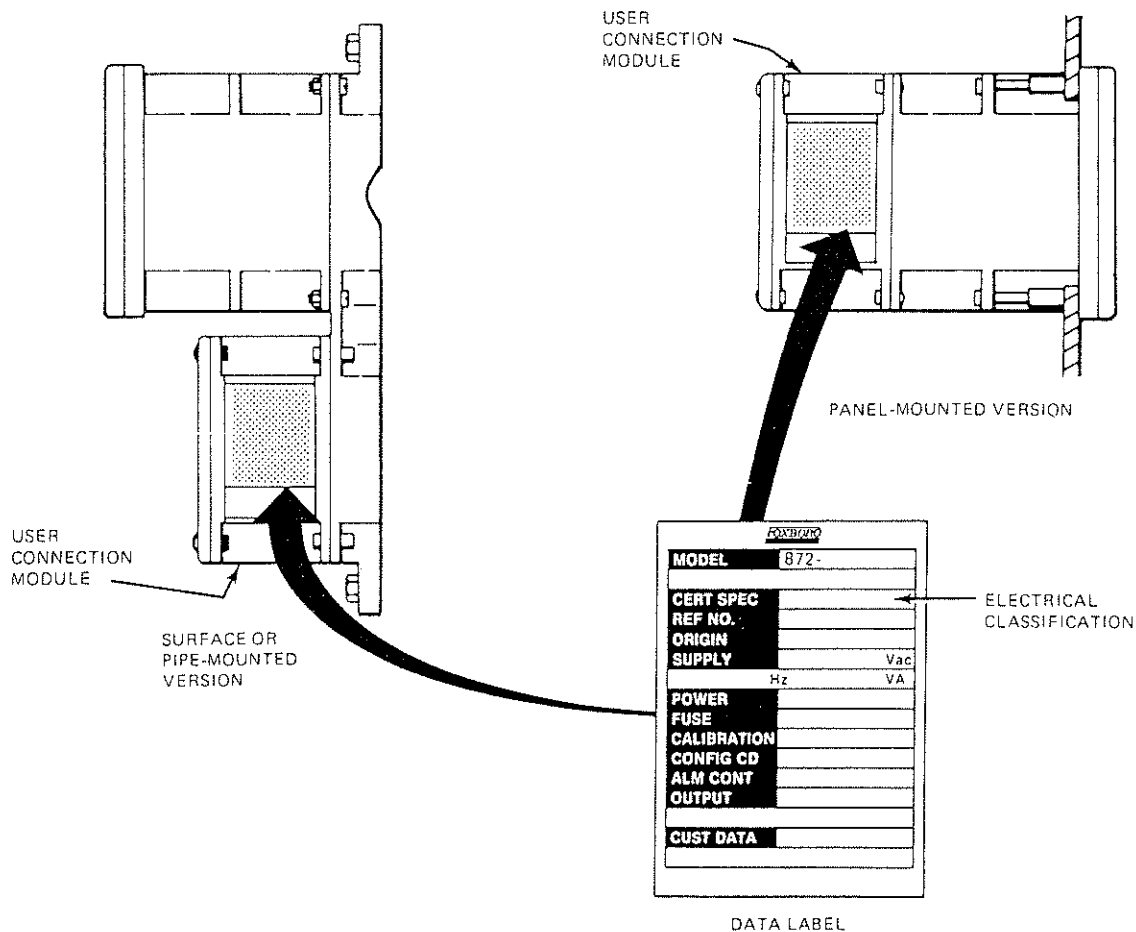

Figure 2. Monitor Identification
**Monitor Identification** Refer to Figure 2.
(1)Refer to Data Label in Figure 2.
1. Remove four screws from cover of Monitor user connection module (Figure 2). On the panel-mounted version, the user connection module is located at the rear of the Monitor, opposite the front plate. On both the surface-mounted and pipe-mounted versions, the user connection module is located directly below the front plate.